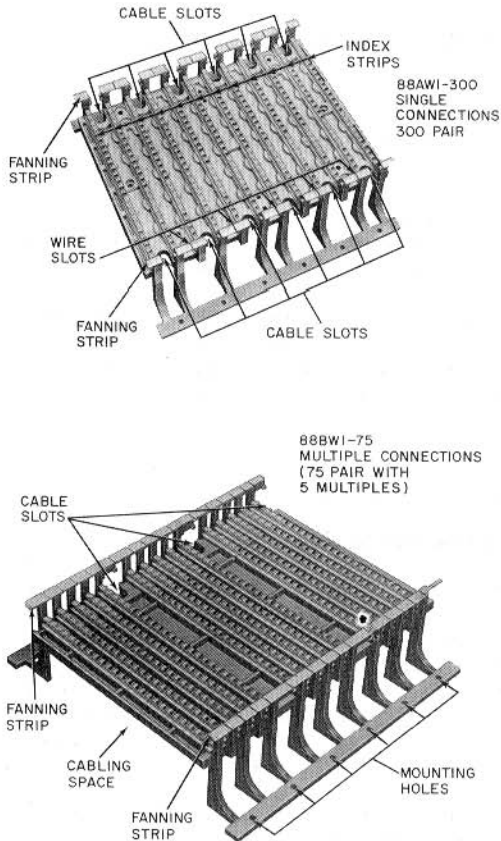

Fig. 1—88-Type Wiring Block
2.01 The 88-type wiring block (Fig. 1) is made of flame retardant plastic with molded index strips. Separate backboards are not required. Each index strip has 50 slots to accommodate a 25-pair cable or a color binder group for terminating PE or PVC 22-, 24-, 26-gauge wire without removing insulation. The index strips are color-coded white, red, black, yellow, violet, from left to right, in 5-pair segments to match the color coding for tip conductors of even-count cables. The various parts of the wiring block are shown in Fig. 1.